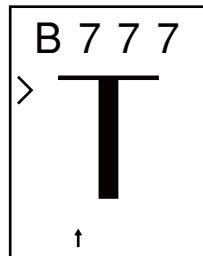
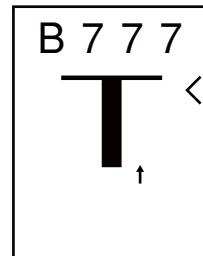
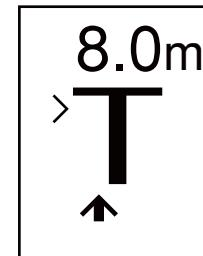
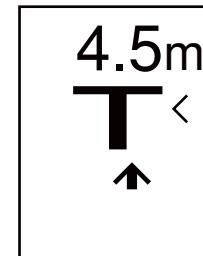

Fig.5
Fig.6
Fig.7
Fig.8
- (2) Deviation of an upward yellow arrow from the center line of "T" indicates the deviation of the approaching aircraft relative to the center line of the parking stand either to right or left. Further, an additional flashing red arrow on the either side indicates the required direction for the aircraft to turn(Fig.5, Fig.6) and indicate numerical value of remaining distance. (Fig.7, Fig.8)